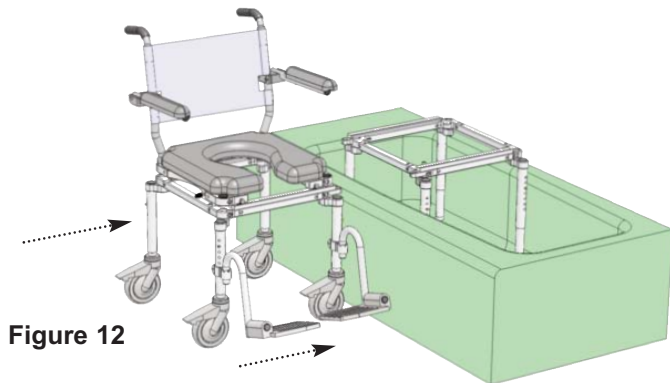

Figure 12
**C** Position the assembled roll-in section of the slider next to the outside wall of the bath tub (Refer to Figure 12).